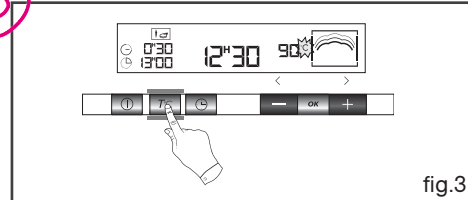

fig.3
**• Grid (fig.3)**
- Press the **T°C** touch control until the "°C" symbol begins flashing (fig.3).